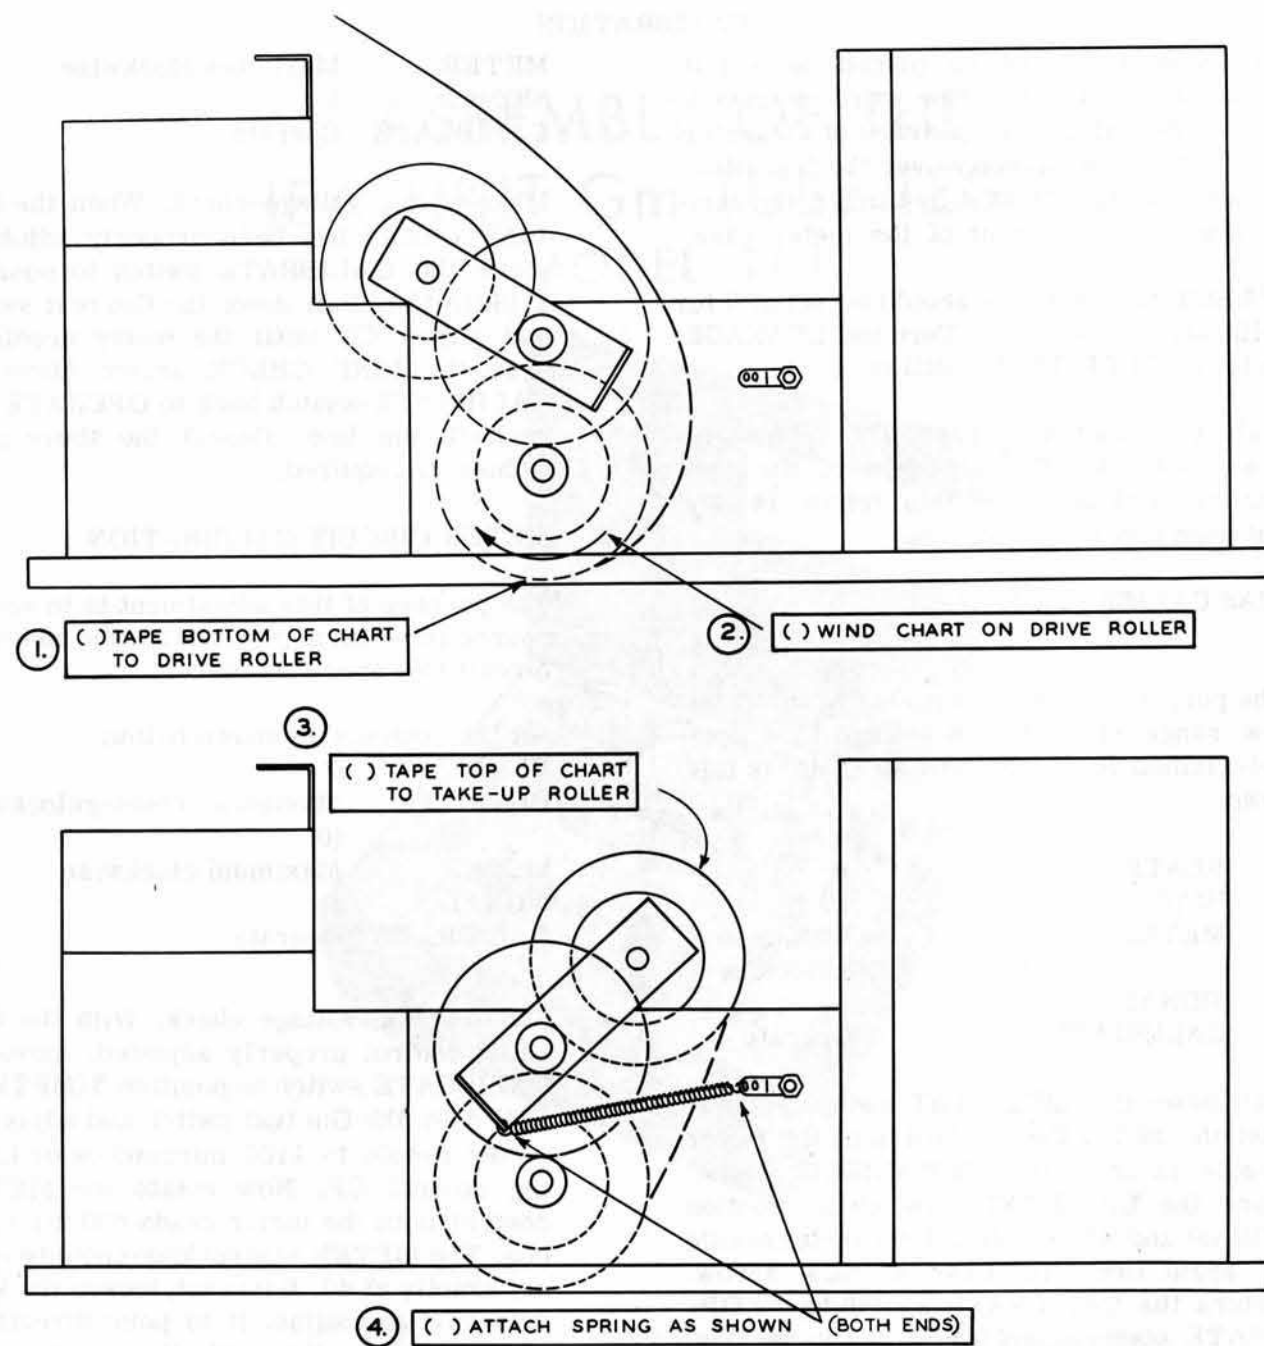

Figure 82
- () Install the roll chart as directed by the steps in Figure 82.